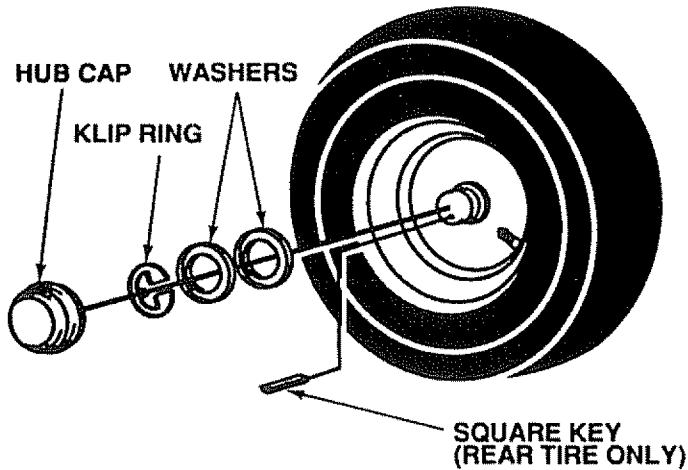

FIGURE 11
- Removing wheel for tire repair (Fig. 11).